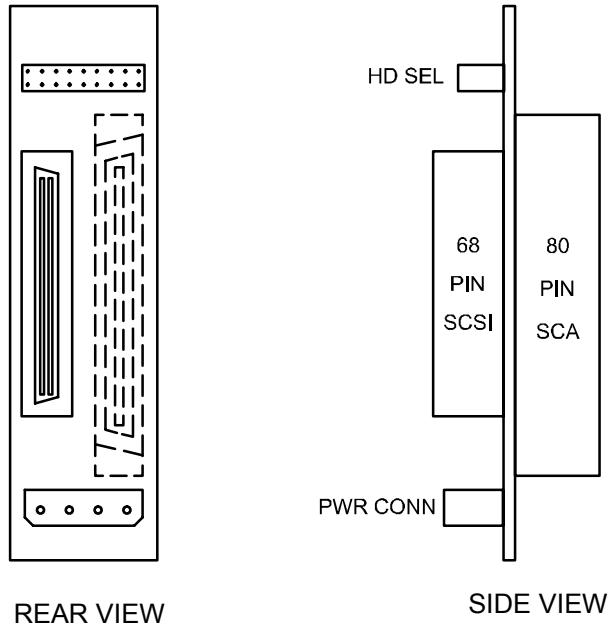

Figure 2-5. Connectors on Media Bay Backplane
- Figure 2-5 shows the Media Bay Backplane connectors and layout.